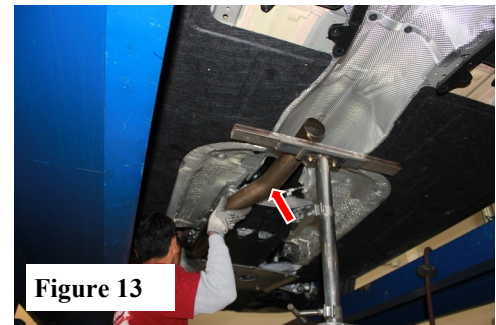

Figure 13
2. Position LH Downpipe Assembly and insert flange into bolts. Replace hardware on flanges. (See Fig. 13)